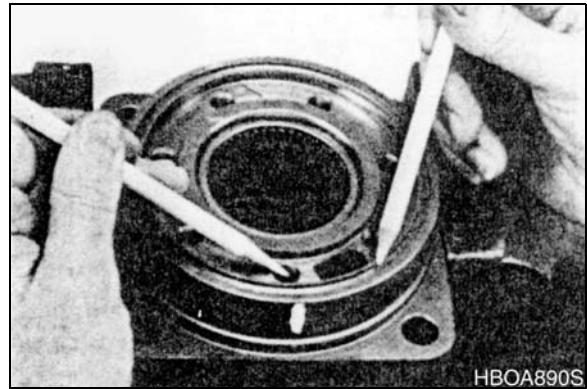

Figure 28
20. Inspect housing (18) assembly for cracks, the machined surfaces for nicks, burrs, brinelling or corrosion. Remove burrs that can be removed without changing dimensional characteristics. Inspect tapped holes for thread damage. See Figure 28. If the housing is defective in these areas, discard the housing assembly.